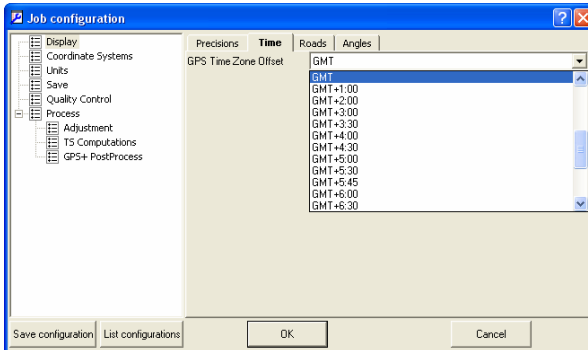

Figure 2-12. Job Configuration – Time Tab
- The *Time* tab (Figure 2-12) sets the GPS time zone offset.